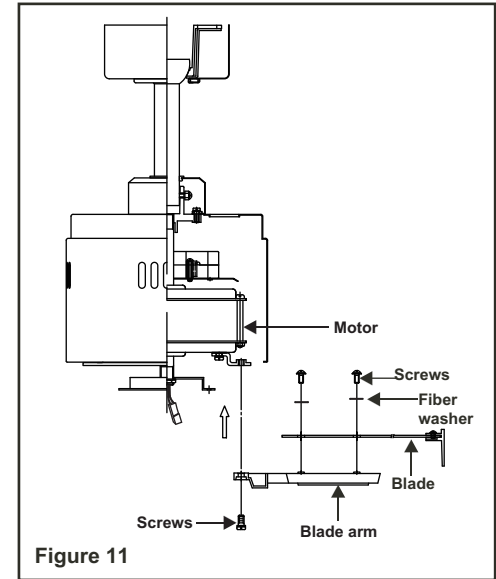

Figure 11
Step 1. Attach the blades to the blade arms using three screws and fiber washers as shown in Figure 11. Start a screw into the arm, do not tighten. Repeat for the 2 remaining screws and washers.